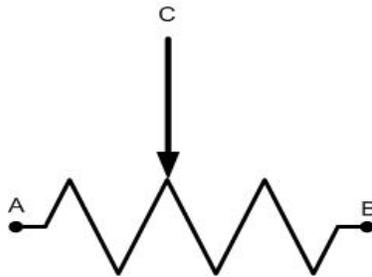

Fig. 4-2 A potentiometer
The circuit symbol for a potentiometer Figure 4-2, shows that this is a three-terminal device. The resistance between points A and B is fixed. Point C is the variable arm of the potentiometer. The arm is a metal contactor that slides along the un-insulated surface of the resistance element. The amount of resistance material between the point of contact and one of the end terminals determines the resistance between those two points. Thus the longer the surface between points A and C, the greater is the resistance between these two points. In other words, the resistance between points A and C varies as the length of the element included between points A and C. The same is true for points B and C. The resistance  $R_{AC}$  from A to C plus the resistance  $R_{CB}$  from C to B make up the fixed resistance  $R_{AB}$  of the potentiometer. The action of the arm is to increase the resistance between C and one of the end terminals and at the same time to decrease the resistance between C and the other terminal while the sum of the two resistances  $R_{AC}$  and  $R_{CB}$  remains constant.
7. Refer to your data in table 4-4 and figure 4-2. What effect do changes in the load current IL, have on the divider tap voltages, VCD and VBD? Give specific examples from your data. Explain the reason for this effect?